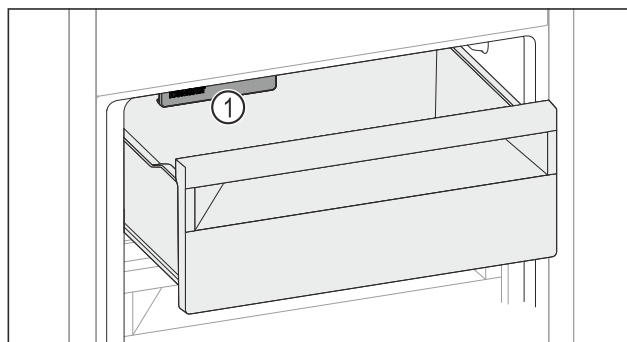

Fig. 162
- Watch out for the IceMaker Fig. 162 (1).